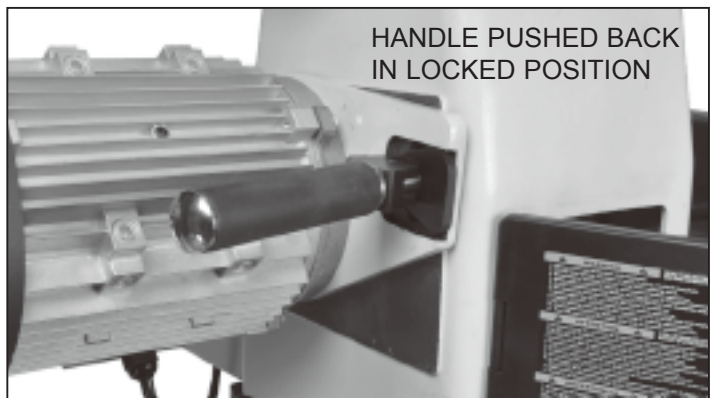

Fig.6.2.2
3. Pull the Belt Tensioning Handle (#B52) forward, away from the motor. Fig.6.2.2.
5. With the Poly-V-Belt positioned on the pulleys, raise the tensioning handle so that the weight of the motor provides the needed tension on the belt. Then secure the tensioning handle in place by pushing the handle back towards the motor. Fig.6.2.2.
3. Pull the Belt Tensioning Handle (#B52) forward, away from the motor. FIG.6.5.2. (See Page 16, Fig.6.2.2&.6.2.3).